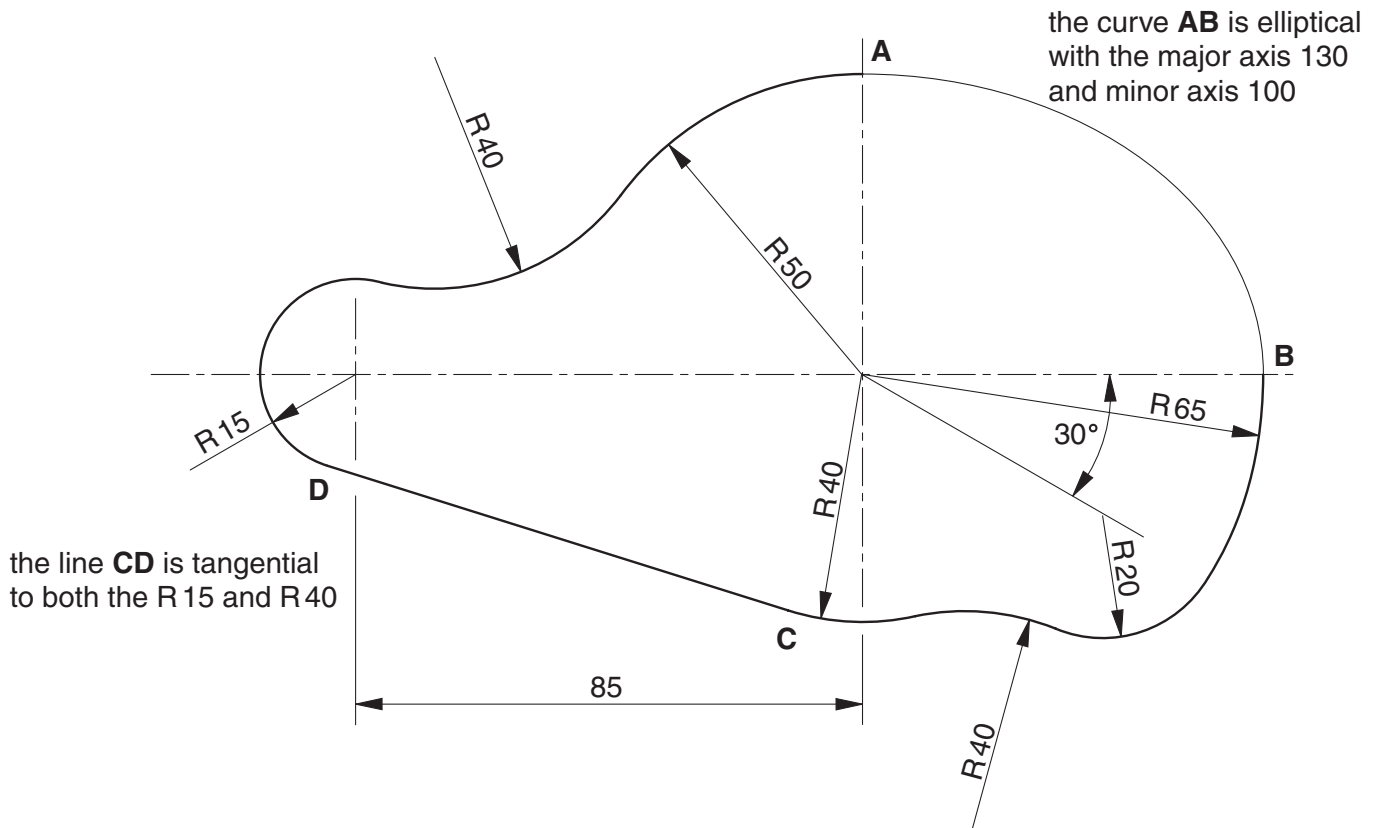

Fig. 1
- 2 Fig. 1 shows the view of a cam. [20]